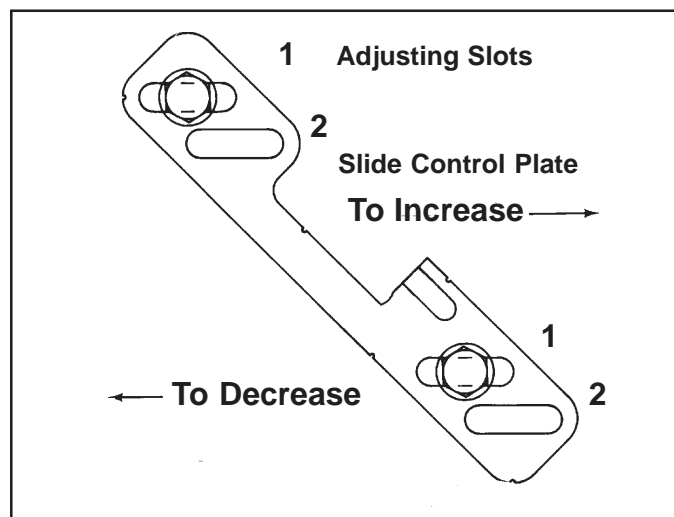

Figure 4. CH Constant RPM Control.
G. Changing the High Idle RPM on a CH Engine with Constant RPM Control (See Figure 4)